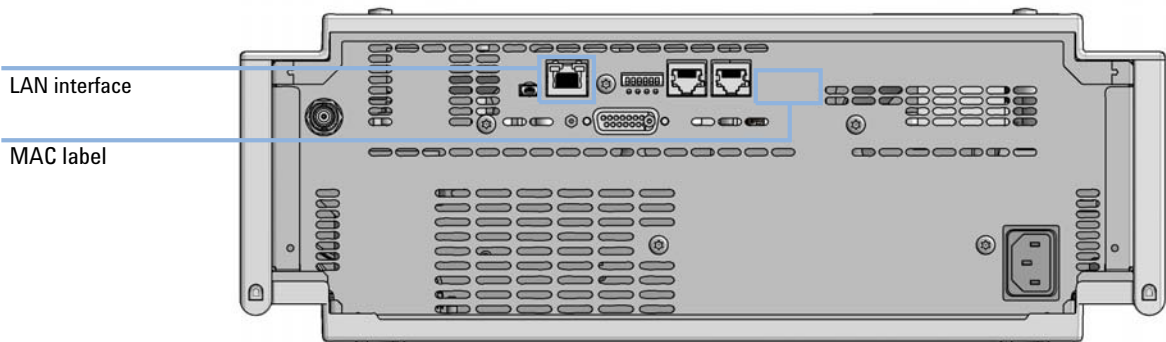

Figure 51 Location of LAN interfaces and MAC label
- 1 Note the MAC (Media Access Control) address for further reference. The MAC or hardware address of the LAN interfaces is a world wide unique identifier. No other network device will have the same hardware address. The MAC address can be found on a label at the rear of the module underneath the configuration switch (see Figure 51 on page 188).
- 2 Connect the instrument's LAN interface (see Figure 51 on page 188) to